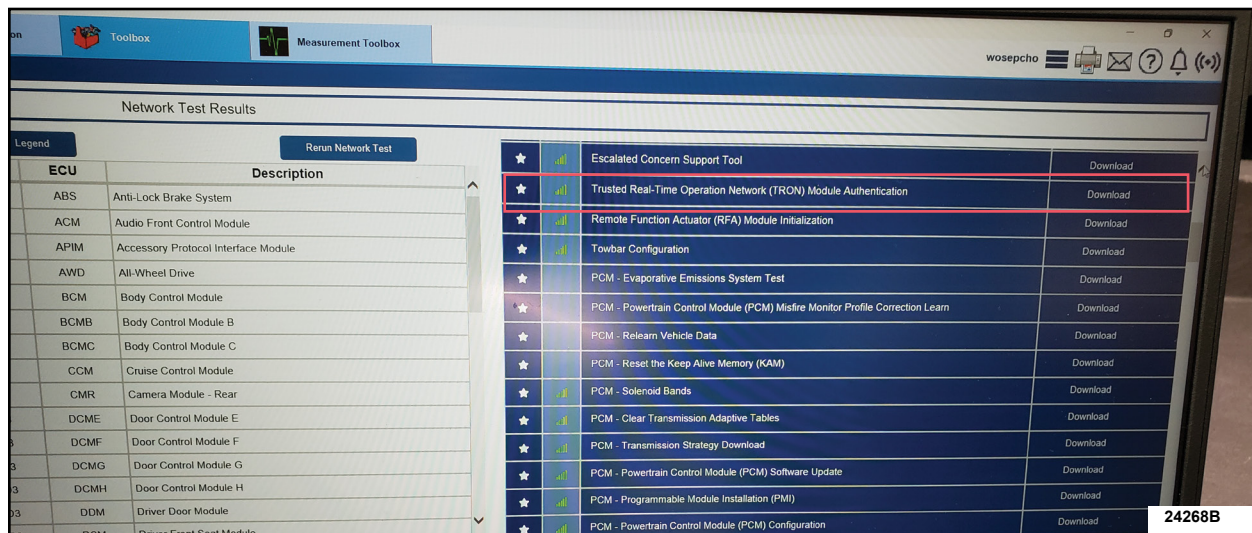

FIGURE 4
50. From the list on the RH side of the screen, download and select the Trusted Real-Time Operation Network (TRON) *module authentication*. See Figure 4.